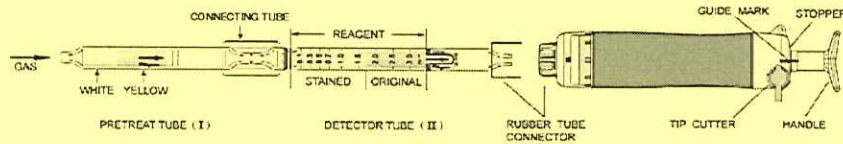

Fig.1
- ① Break both ends of the detector tube (II) and pretreat tube (I), and connect each end of the detector tube (II) and pretreat tube (I) with connecting tube as shown in Fig.1.
- ② Insert the detector tube (II) into the aspirating pump securely as shown in Fig.1. (Arrow mark shall point to the pump.)
- ③ Align the guide marks on the shaft and stopper of the aspirating pump.
- ④ Pull the pump handle at a full stroke until it locks and wait for 2.5 minutes or until the completion of sampling is confirmed with the flow indicator of the pump. (See descriptions about the flow indicator in the instruction manual of the pump.)
- ⑤ Push back the handle without removing the detector tube from the rubber tube connector so that air in the pump will be discharged perfectly. Then repeat the steps ③ ~ ④ third more.
- ⑥ On completion of sampling, read the scale at the maximum point of the stained layer.
- ⑦ When the concentration is over the scale range, 2 pump strokes can be used to determine concentrations of 0.2 to 6.4 ppm. Then correct the tube reading by correction table. (REFER TO ITEM 3. CORRECTION FOR AMBIENT CONDITIONS AND PUMP STROKE.)